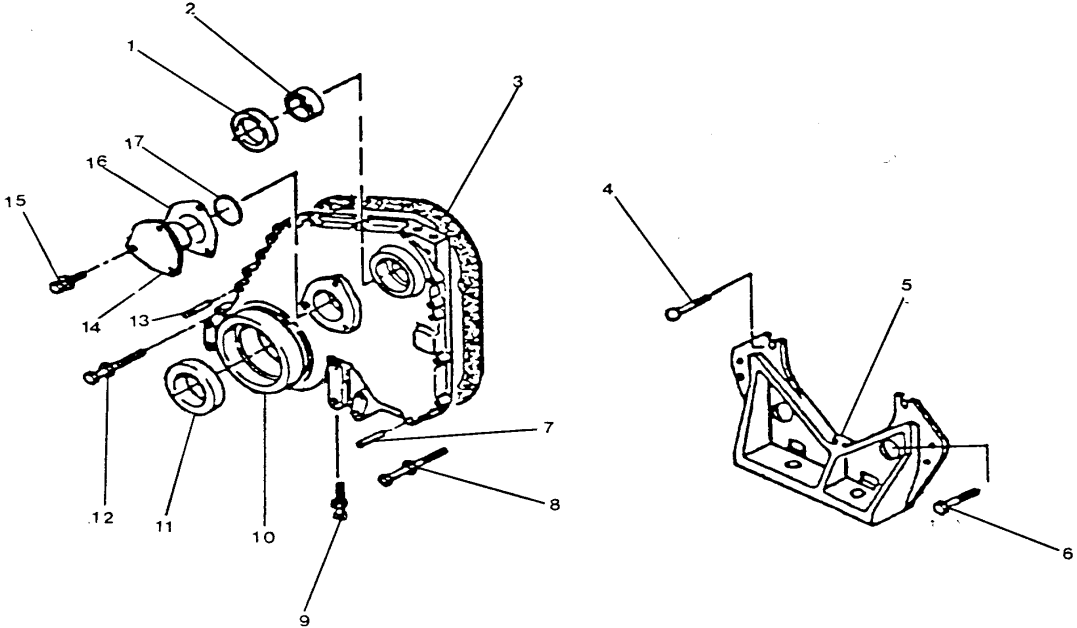
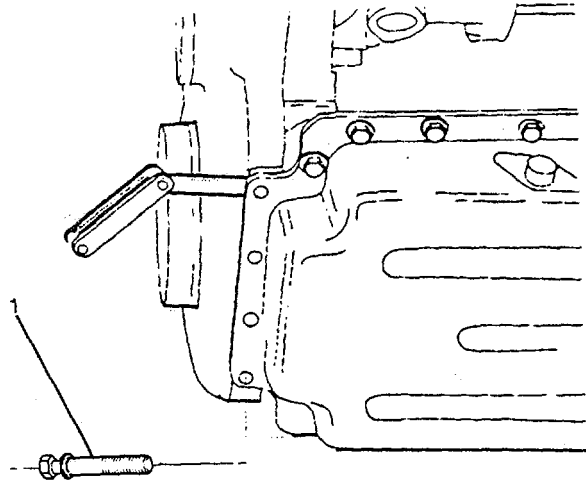
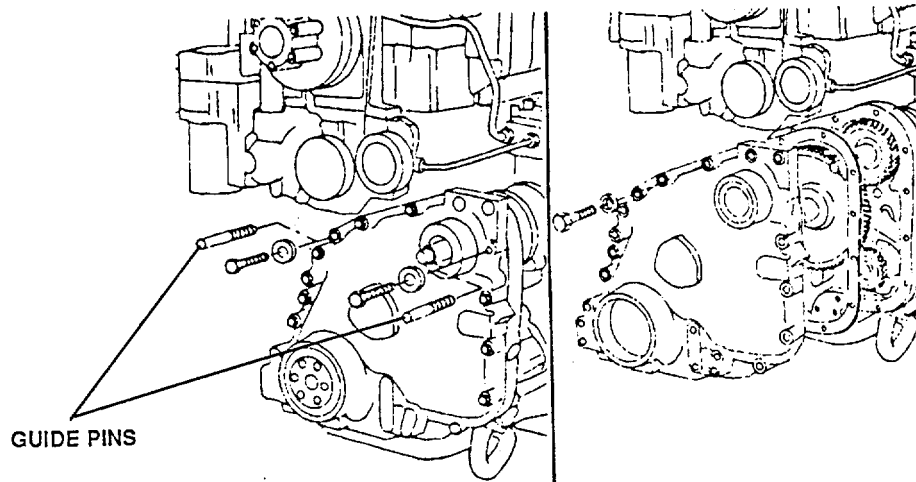
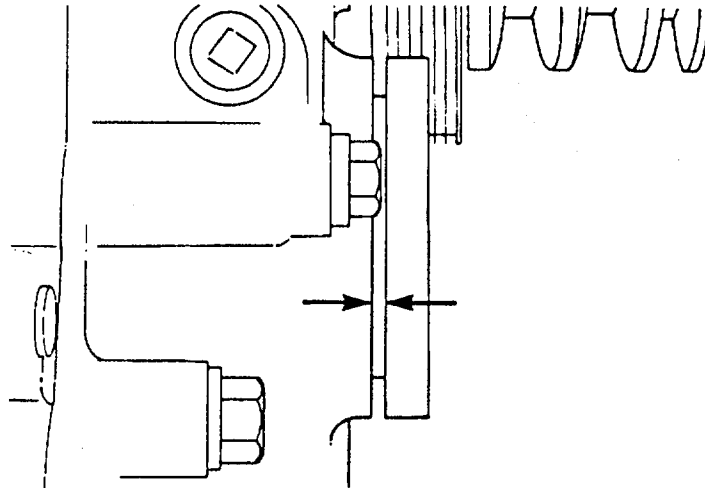

FIGURE 3-38. Gear Cover and Support Group.
FIGURE 3-40. Releasing Oil Pan Gasket
FIGURE 3-41. Removing Gear Cover.
FIGURE 3-42. Support Bearing Clearance.
- (1) Remove the three assembled washer screws (15) from the camshaft thrust support (14) (Figure 3-38).
- (3) Remove the support (14, Figure 3-38) from the gear cover (10).
- (4) Remove the packing (17) and the thrust shims (16) from the support (14). Do not discard the shims.
- b. Remove the four hexagon capscrews (1, Figure 3-40) that hold the oil pan to the gear cover.
A hoist must be solidly supporting the engine before removing the machine bolts and hexagon capscrews from engine mounting bracket (Figure 3-38).
- f. Insert a feeler gauge or a shim stock between the gear cover and the oil pan gasket. Move the feeler gauge or the shim stock back and forth to release the gasket from the gear cover (Figure 3-40).
- g. Remove one assembled washer screw (8, 12, Figure 3-38) on each side of the gear cover (10), and install the 7/16-20 x 4 inch straight headless pins (7, 13) in each location to support the cover (10) during removal (Figure 3-41).
- h. Remove assembled washer screws (9, Figure 3-38) and the remaining gear cover (10) screws (8, 12). Remove the gear cover (10). The pins (7, 13) will remain in the block until installation.
- i. Remove the plain encased seal (11) and accessory drive seal (1) from the cover (10).
- j. Remove the gasket (3). Discard gasket.
- a. Install the gasket (3, Figure 3-38) over the guide pins (7, 13).
- b. Install the gear cover (10) and screws (8, 9, 12). Tighten the screws to 50 ft-lb (67.7 N·M) torque.
- (1) Remove pins (7, 13) and install the remaining two screws. Tighten the screws to 50 ft-lb (67.7 N·M) torque.
- i. Lower the engine with the lifting fixture onto the engine mounting bracket (5). Install the bracket (5) and the eight capscrews (4, 6). Tighten the screws (4, 6) to 50 ft-lb (67.7 N·M) torque.
- j. Install the camshaft bearing support (14, Figure 3-38) as follows:
- (1) Place the bearing support in the bore of the gear cover. Do not install the packing (17) on the support at this time.
- (2) Push the support against the camshaft so the camshaft gear rests against the camshaft thrust washer.
- (3) Hold the support against the camshaft, and use a feeler gauge to measure the space between the gear cover flange and the support bearing (Figure 3-42).
- (6) Remove the support and install the required number of shims and a new packing (17, Figure 3-38) on the camshaft bearing support (14).
- (7) Lubricate the packing (17, Figure 3-38) with oil and install the camshaft bearing support (14) in the gear cover with the screws (15).
- (8) Tighten the screws to 20 ft-lb (25 N·M) torque.
- f. Install the plain encased seal (11), as follows:
- (1) Use hand pressure to push the oil seal from the assembly tool onto the crankshaft as far as possible. Remove the assembly tool.
- (2) Install P/N ST-1259-1 Top Plate (from P/N ST-1259 Oil Seal Puller/Installer) on the crankshaft, and use three vibration damper mounting capscrews and flat washers.
- (3) Tighten the three capscrews alternately in 1/2-turn increments until top plate seats against the crankshaft nose.
- h. Install the accessory drive seal (1, Figure 3-38) as follows:
- (1) Install the oil seal on P/N ST-1173 Fuel Pump Drive Oil Seal Mandrel with the part number side facing the driver.